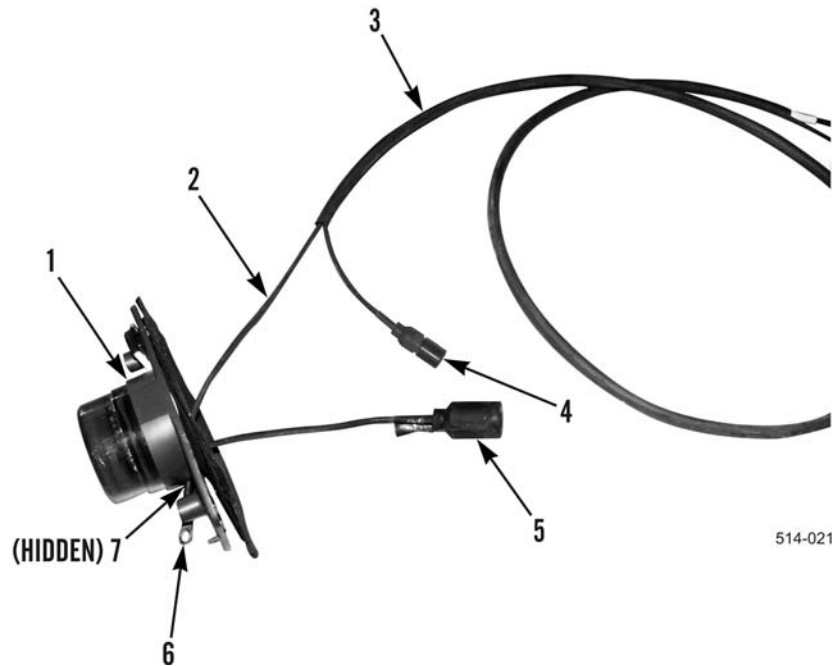

Figure 60. Slider Light Extension Installation.
10. Place light (Figure 60, Item 1) and wire extension (Figure 60, Item 3) on flat work surface.
11. Feed small connector (Figure 60, Item 6) on ground wire (Figure 60, Item 2) through back of light (Figure 60, Item 1) out through access hole (Figure 60, Item 7).
12. Connect light wire (Figure 60, Item 5) to extension wire connector (Figure 60, Item 4).